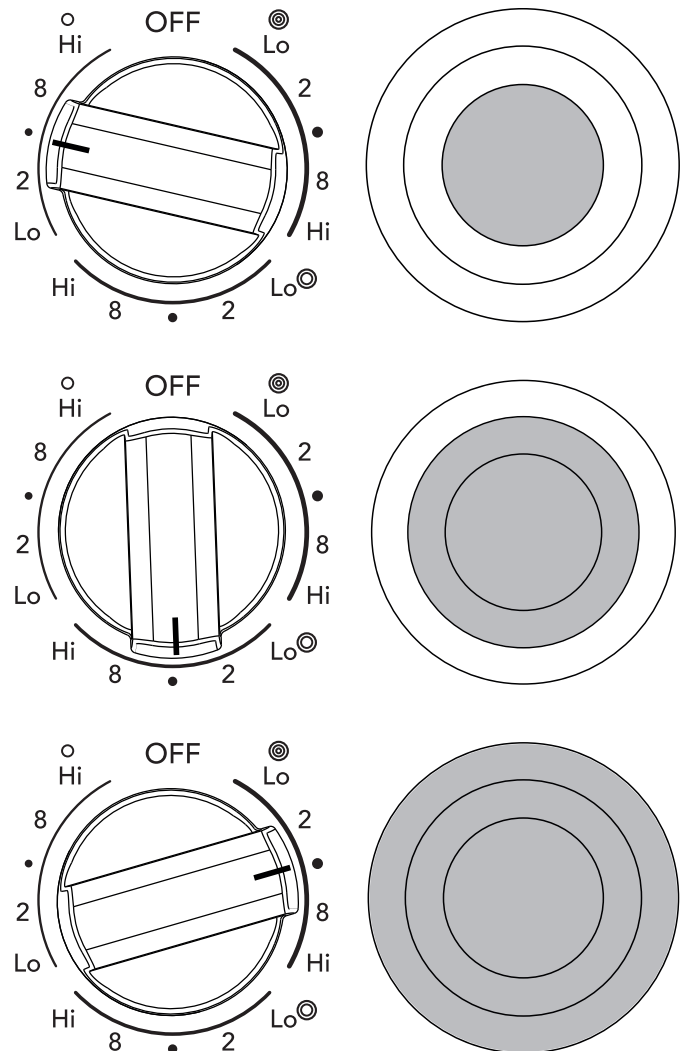

Figure 9: Triple element knob settings
Symbols around the knob are used to indicate which element of the triple radiant element will heat. The ○ symbol indicates that only the inner element will heat. The ◎ symbol indicates that the inner and middle elements will heat. The ⊙ symbol indicates that the inner, middle and outer elements will heat (Figure 9). You may switch the element setting at any time during cooking.
2. Push in and turn the control knob to the inner element symbol for smaller cookware or to the inner and middle element symbol for average cookware or to the inner, middle, and outer element symbol for large cookware (Figure 9). Turn the knob to adjust the setting if needed.